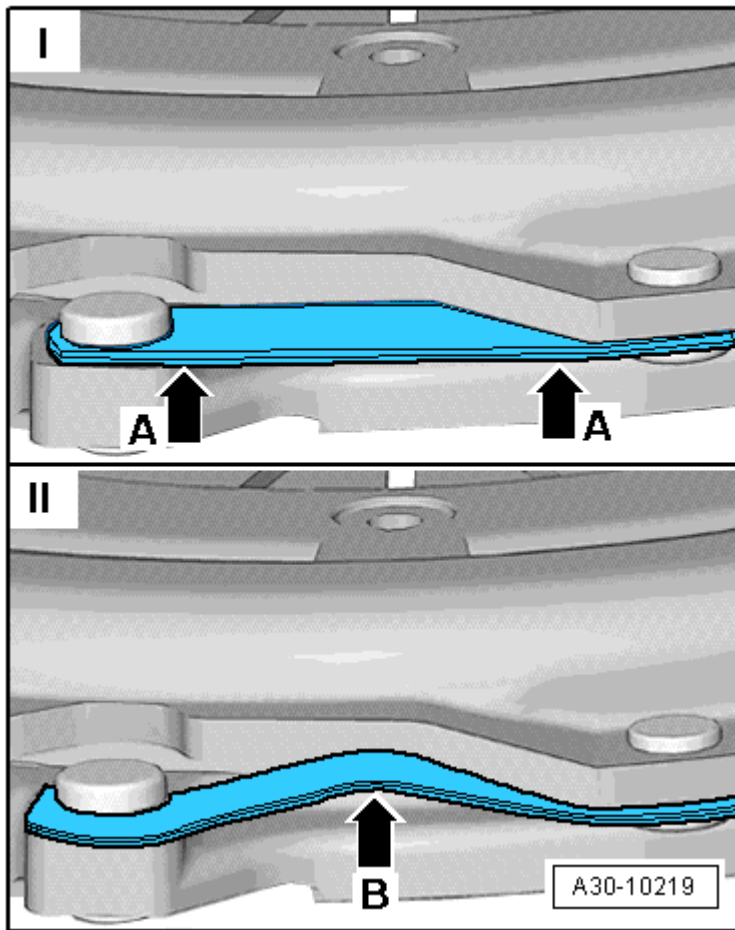

Fig. 9: Checking Pull-Springs And Rivet Connection
- Check the pull-spring and rivet connections, refer to **Fig. 9**